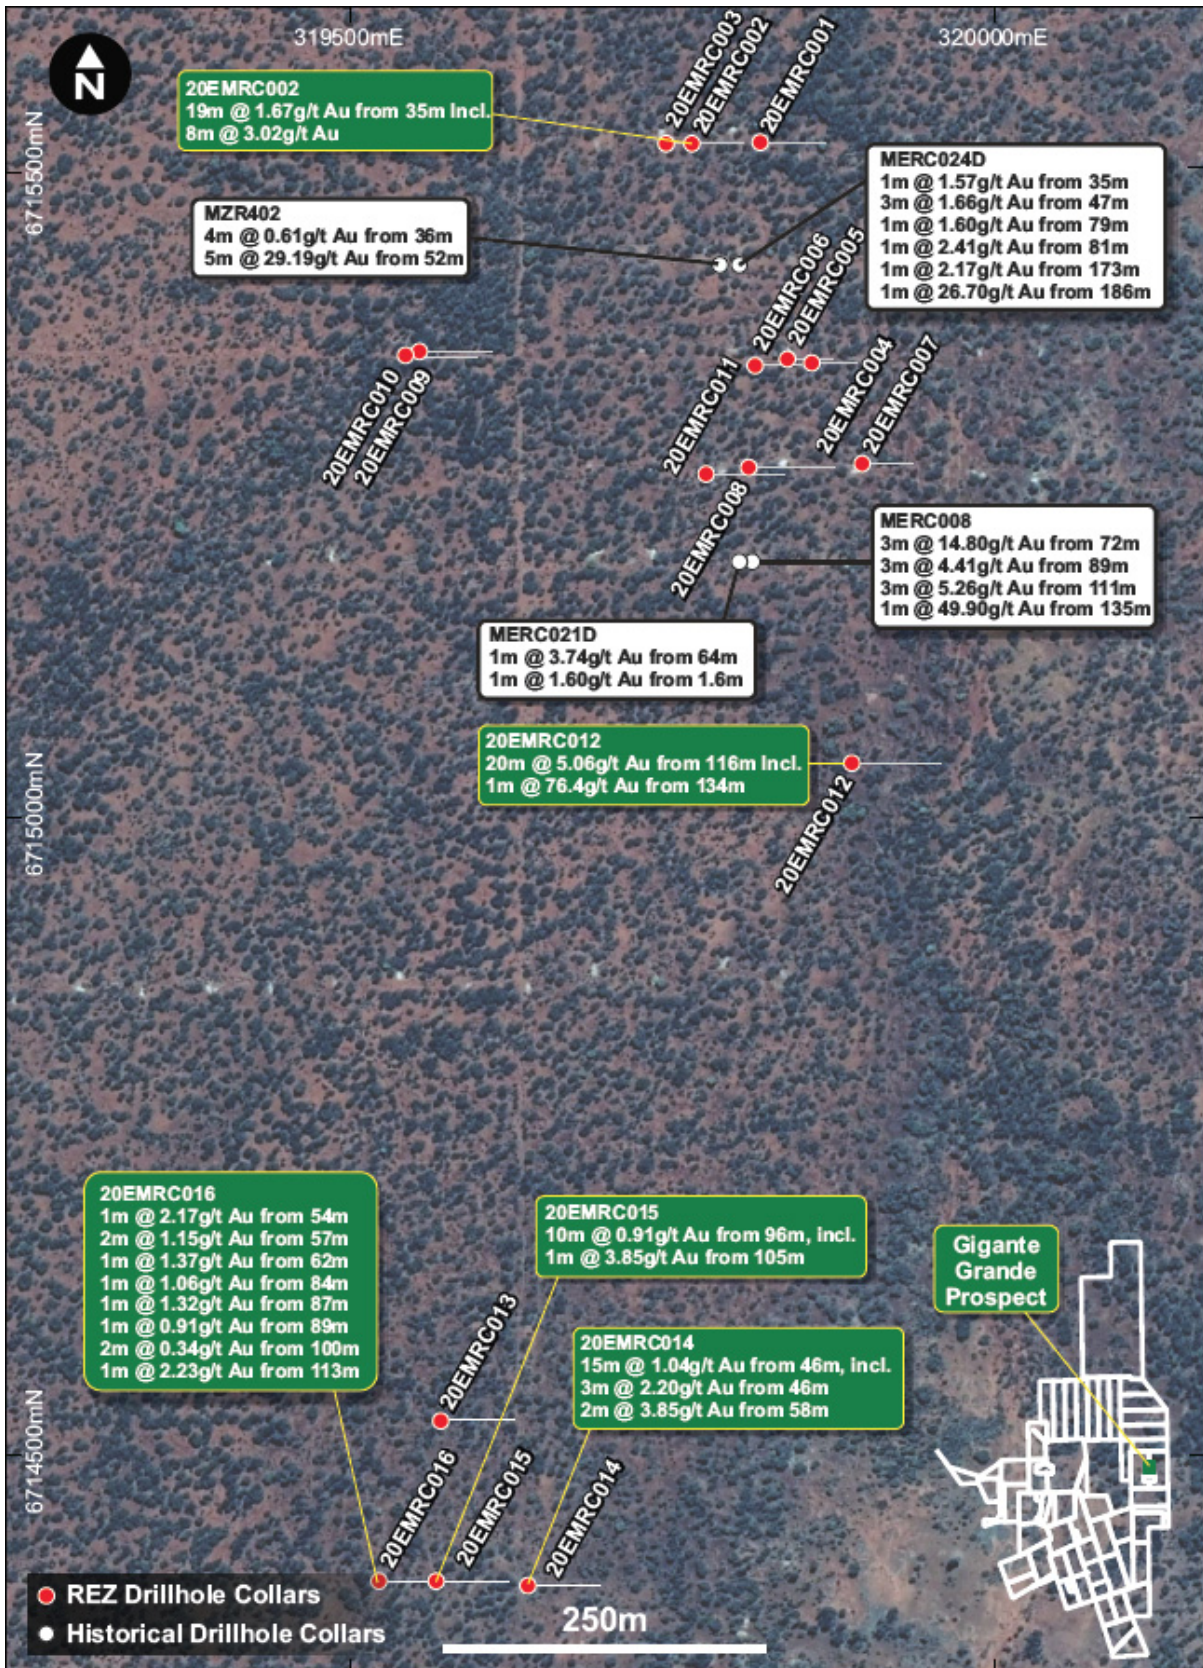

Figure 1-Borehole Location Plan
**20EMRC014, 20EMRC015 and 20EMRC016** were step out holes which were located approximately 700m south from the nearest exploration drillhole 20EMRC012 (refer figure 1-borehole location plan).
The recent results represent exploration drilling that has targeted a southerly continuation of mineralisation along the Moriarty Shear Zone, with holes stepping out approximately 700m from the most southerly hole 20EMRC012 (refer figure 1).